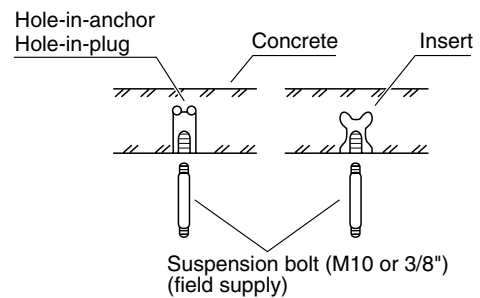

Fig. 3-3
- (3) Depending on the ceiling type:
- Insert suspension bolts as shown in Fig. 3-3.